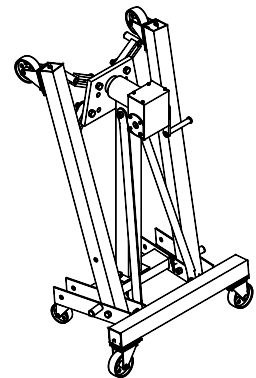

Figure 8 - Assembly Illustration for Model 31256
4. To rotate engine slowly and carefully release locking mechanism. Use original handle to rotate, then secure by engaging lock mechanism (see Fig. 1 & 2). For model 31256, slowly and carefully engage the crank handle (see Fig. 8)